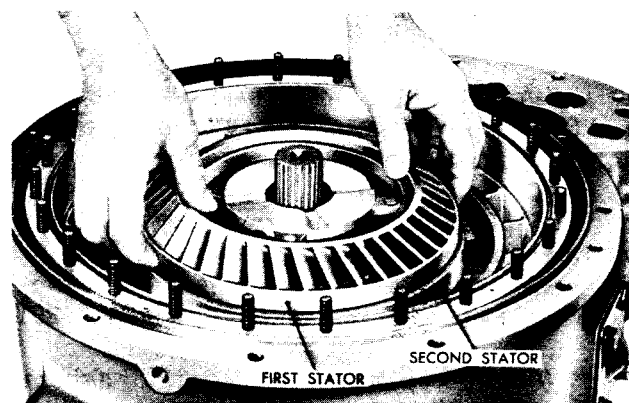

Fig. VII-31. Installing (or removing) first-stator assembly ^{S2517}
(10) Install the first-stator assembly (fig. VII-31). Repeat the check for rotation (see (8), above).
(11) If ball bearing assembly 37 (B, foldout 7) was removed from turbine assembly 36, press it onto the turbine hub until it is firmly seated.